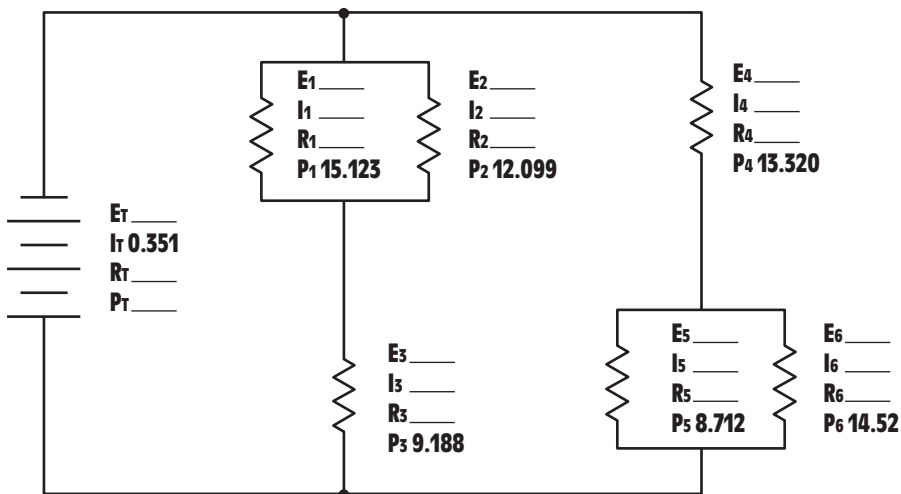

Figure 7-29 Practice Problem 9.
9. Find all the missing values in the circuit shown in *Figure 7-29*.